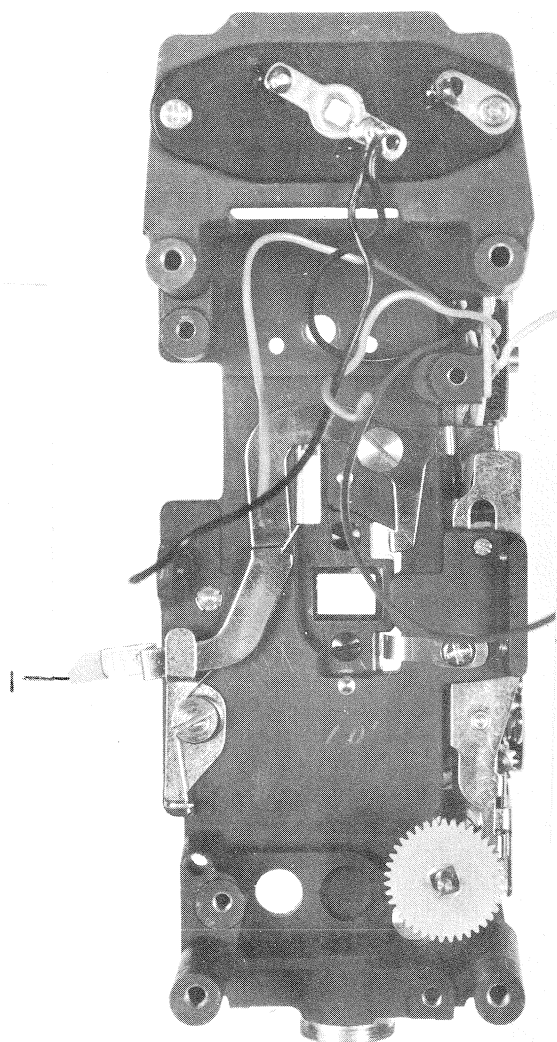

Fig. 19
- b-3. Inspect, adjust, remove, and replace the loading lever (1 in Fig. 19).